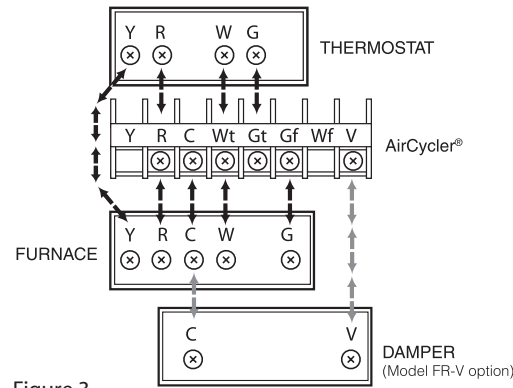

Figure 3
6. Connect wires to proper terminals of the connector block. (Figure 3) Both (R) and (C) must be connected for proper operation.